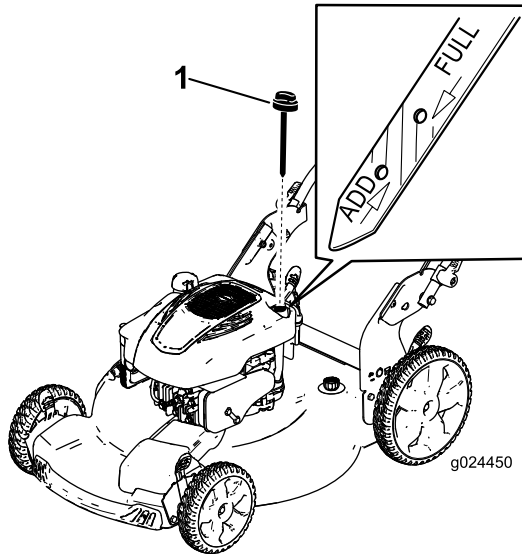

Figure 21
3. Remove the dipstick (Figure 21).
10. Read the oil level on the dipstick (Figure 21).